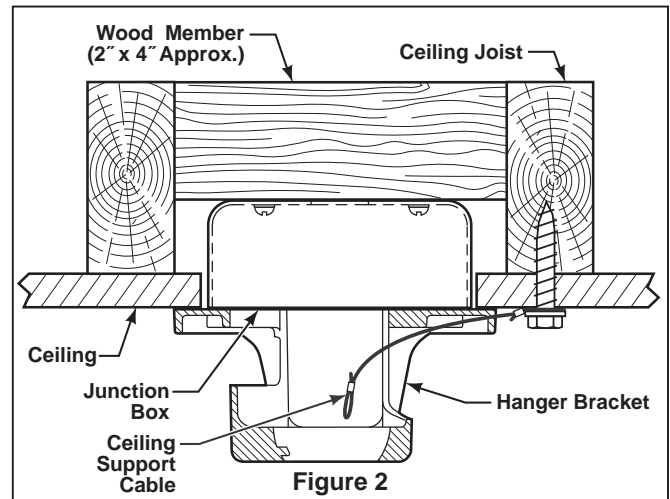
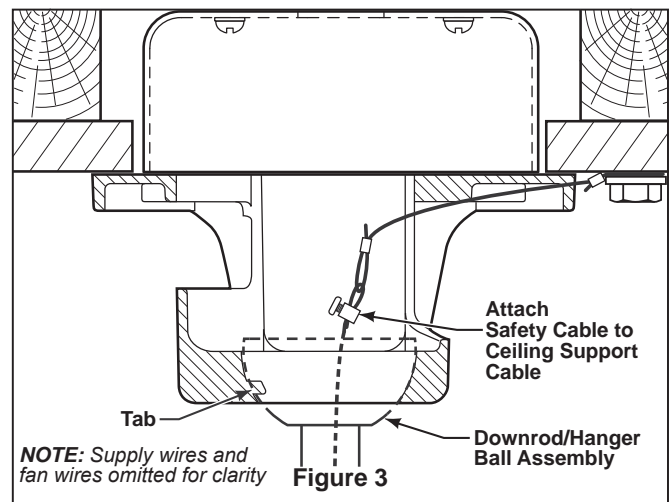

Figure 2
Figure 3
Your new ceiling fan will require a grounded electrical supply line of 120 volts AC, 60 HZ, 15 Amp Circuit. Electrical code requires use of a fan-rated outlet box to support the extra weight and motion associated with a ceiling fan. A fan-rated box will be labeled as such and typically supports up to a 70lb ceiling fan. Fan-Rated Outlet Boxes vary in ratings and design. Ensure the ratings of your ceiling fan outlet box meet the requirements for the ceiling fan being installed. Figure 1, Figure 2 and Figure 3 depicts different structural configurations that may be used for mounting the outlet box.
Deep box (Figure 2)
Deep box with brace (Figure 3)
2. Remove the hairpin clip and clevis pin from the bottom of downrod. Retain the pin and clip for reinstallation in Step 4 (Figure 2).
3. Loosen the two set screws in the downrod support. Route black, blue and white lead wires through the downrod (Figure 3).
1. Using the $\frac{3}{8}$ " x 2" lag bolt and flat washer, attach safety cable to ceiling joist or wood structural member. The lag bolt will pass through the flat washer, safety cable loop, and into the building structure (Figure 2). You will first drill a $\frac{1}{4}$ " pilot hole into the building structure to prevent splitting or cracking.
NOTE: Ceiling support cable cannot be secured to junction box only, it must be directly secured to ceiling joist or structural member using the $\frac{3}{8}$ " x 2" lag bolt and flat washer. (Figure 2)
4. Carefully lift the fan and seat the downrod/hanger ball assembly on the hanger bracket that was just attached to the ceiling joist. Be sure the groove in the ball is lined up with tab on the hanger bracket. (Figure 3)
5. Attach the safety cable to ceiling support cable. Slide cable clamp onto safety cable (from fan). Place the end of cable through the loop of ceiling support cable. Pull as much cable through loop as possible. Feed end of cable into clamp hole and firmly tighten screw (Figure 3). Cut off excess safety cable.
- 4. Tighten screws with a screwdriver provided, don't over-tighten. (Figure 2)
- 5. Attach assembled blades and blade holders to the motor hub using the provided screws & lock washers. (Figure 3)